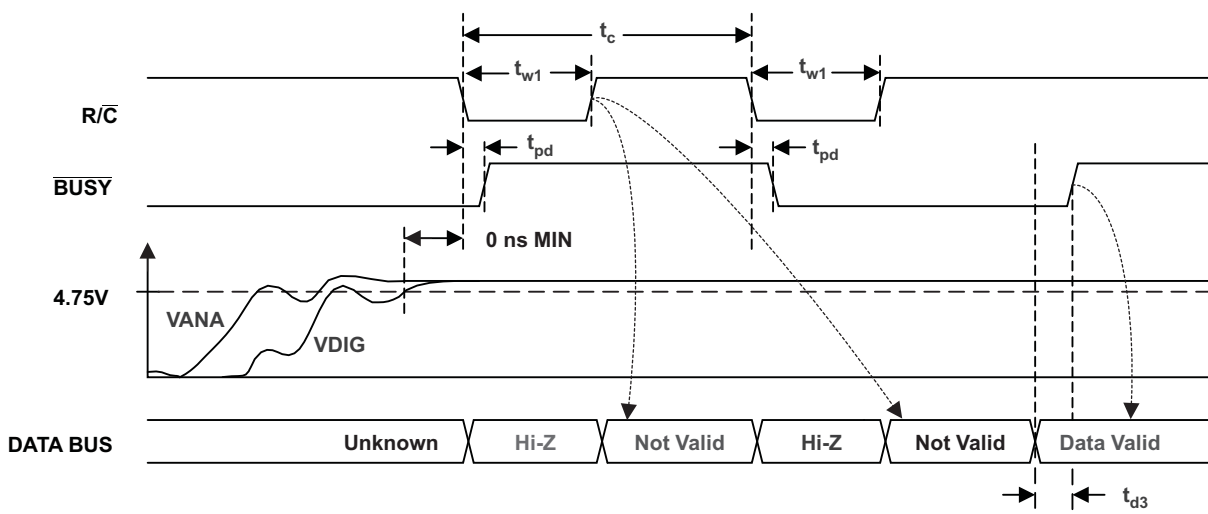

Figure 22. ADC Reset
The combination of  $\overline{CS}$  (pin 25) and  $\overline{R/C}$  (pin 24) low for a minimum of 40 ns immediately puts the sample/hold of the ADS8504 in the hold state and starts conversion  $n$ .  $\overline{BUSY}$  (pin 26) goes low and stays low until conversion  $n$  is completed and the internal output register has been updated. All new convert commands during  $\overline{BUSY}$  low will abort the conversion in progress and reset the ADC (see Figure 22).
(2) See Figure 22 for details on ADC reset.